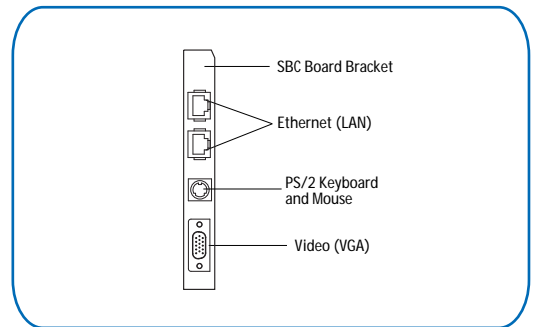

Figure 6. Power Cord Connection
After inserting the power cord into the plug on the power supply, be sure to turn the power supply switch to 1 (Standby) (Figure 6). If the switch is set to 0 (Off), no power will be available to power the system.
- 1) To turn on the unit, make sure the power cord is connected to a reliable power source and the power supply switch is set to 1 (Standby) (Figure 6).